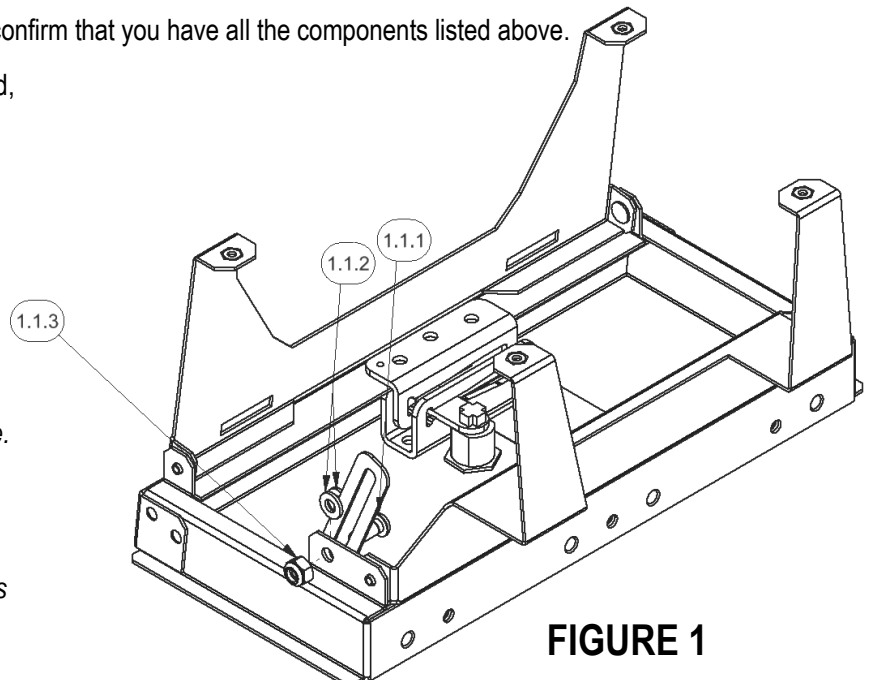

FIGURE 1
2. Invert the #393 Console Insert so it rests on its lid, expand the legs and assemble the lid support hardware as shown in **Figure 1**.